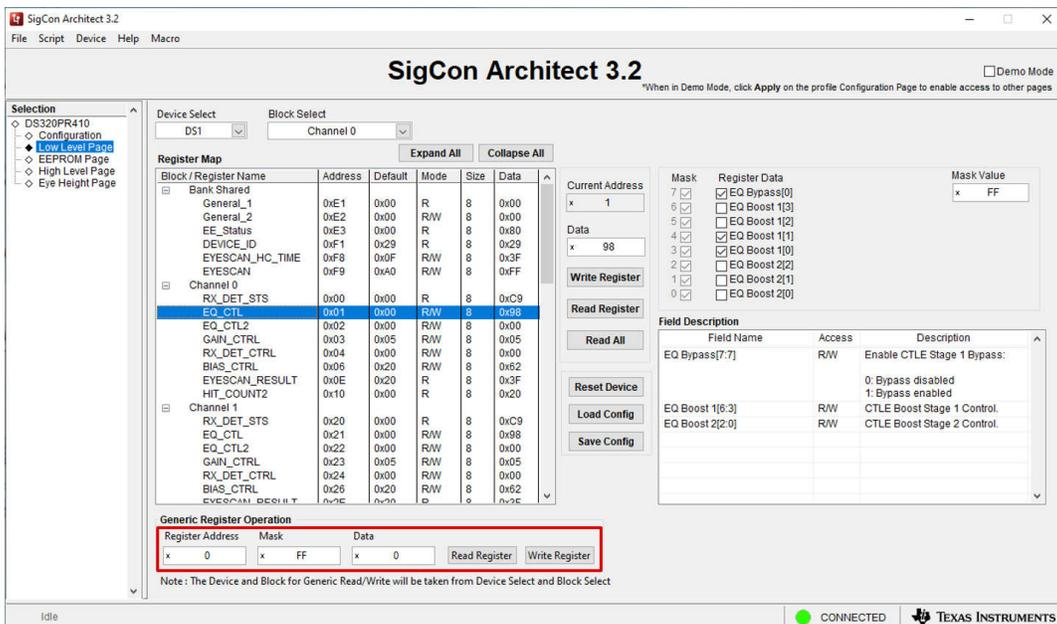

Figure 3-6. Low Level Page: Generic Register Operation
- If desired, the *Generic Register Operation* portion of the page can be used to read and write generic device registers with a custom mask. This can be found at the bottom of the *Low Level Page*, as indicated by Figure 3-6.